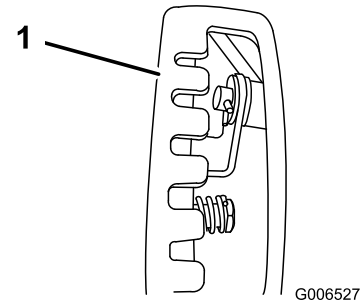

Figure 7
**Note:** For easier installation, look down through the opening in the speed selector (Figure 7).